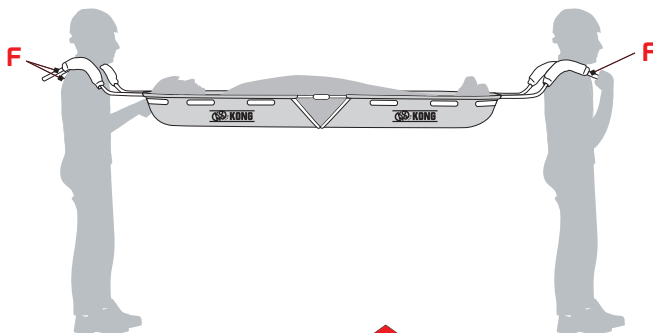

Fig.2
- 1:3 = usable load: 150 kg for lifting and manual transport using the handles (F) - (fig. 2),